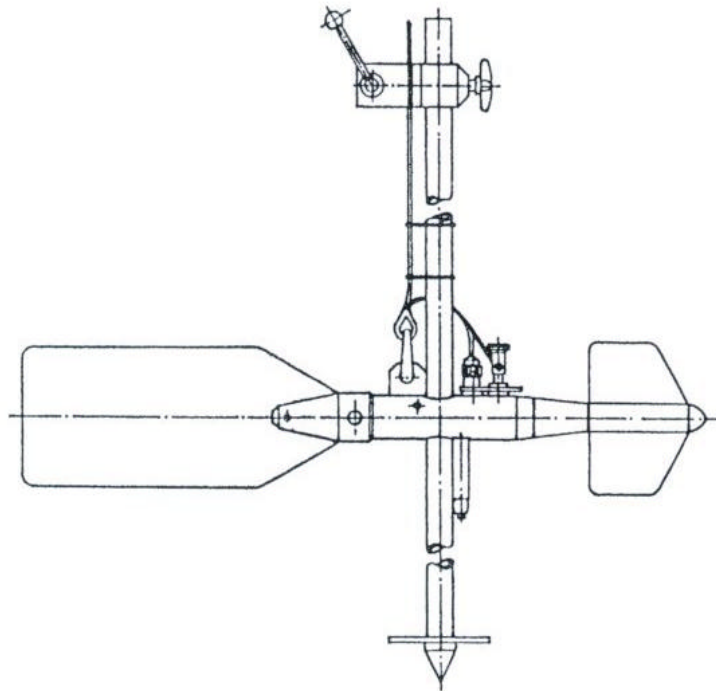

fig. 3
- for best positioning to the flow direction - and special clamp for fixing the cable. The movement of the current meter to different measuring points will be effected by opening the excentric lever and shifting the cable. In order to avoid deviation of the cable, it will be guided on the rod by means of the wire-clasps. For better lowering there is an additional cross plane available (fig.3).